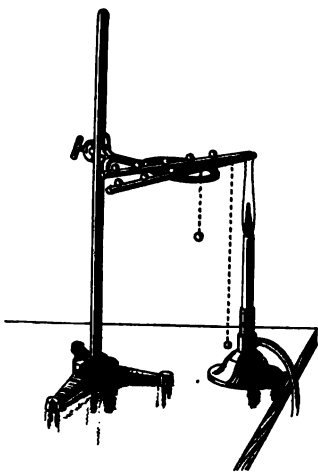

FIG. 152. One rod is a better conductor of heat than the other.
**Exercise 10.** Arrange a glass rod and a metal rod, or a copper rod and an iron rod, as shown in Figure 152. Now, with drops of wax, fasten small marbles or large shot along the rods at equal intervals. With an alcohol lamp or a Bunsen burner heat the ends of the rods equally. What results do you get?